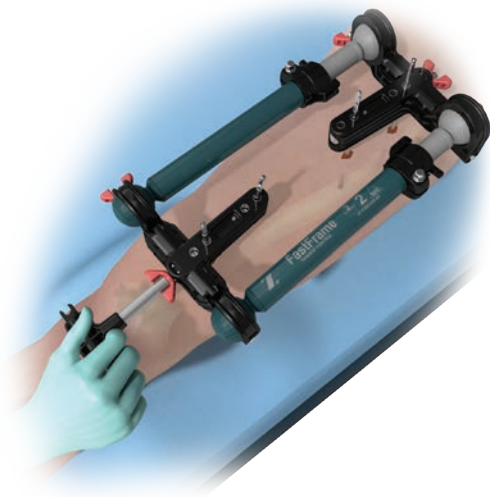
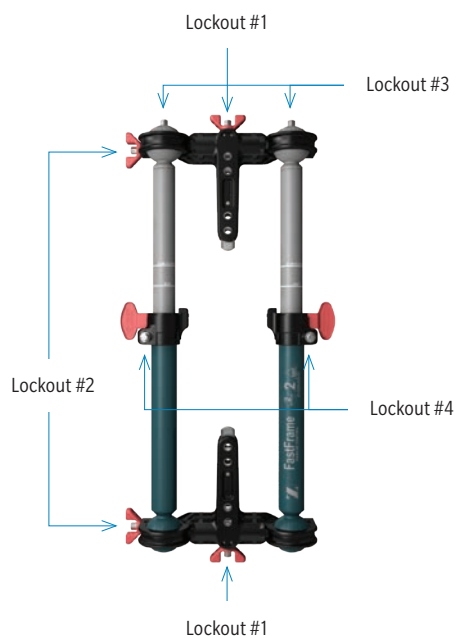

Figure 13
Figure 14
Utilize the T-handle driver to conduct final frame locking (Figure 13). Note the 1 – 4 number sequence on each nut and tighten the nuts in this order (Figure 14).
1. Tighten the clamp slider bolts on each clamp (indicated as Lockout #1 in Figure 14) in order to fix the clamps to the pins.
2. Tighten the polyaxial lockout bolts on each clamp (indicated as Lockout #2 in Figure 14) in order to fix the clamps to the bars.
3. Lock the two backup telescoping lockout bolts (indicated as Lockout #3 in Figure 14) to allow initial fastening of the telescoping bars.
4. Lock the two telescoping lockout bolts along the tube/bars near the red tabs (indicated as Lockout #4 in Figure 14) to allow complete fixation of the telescoping bars.